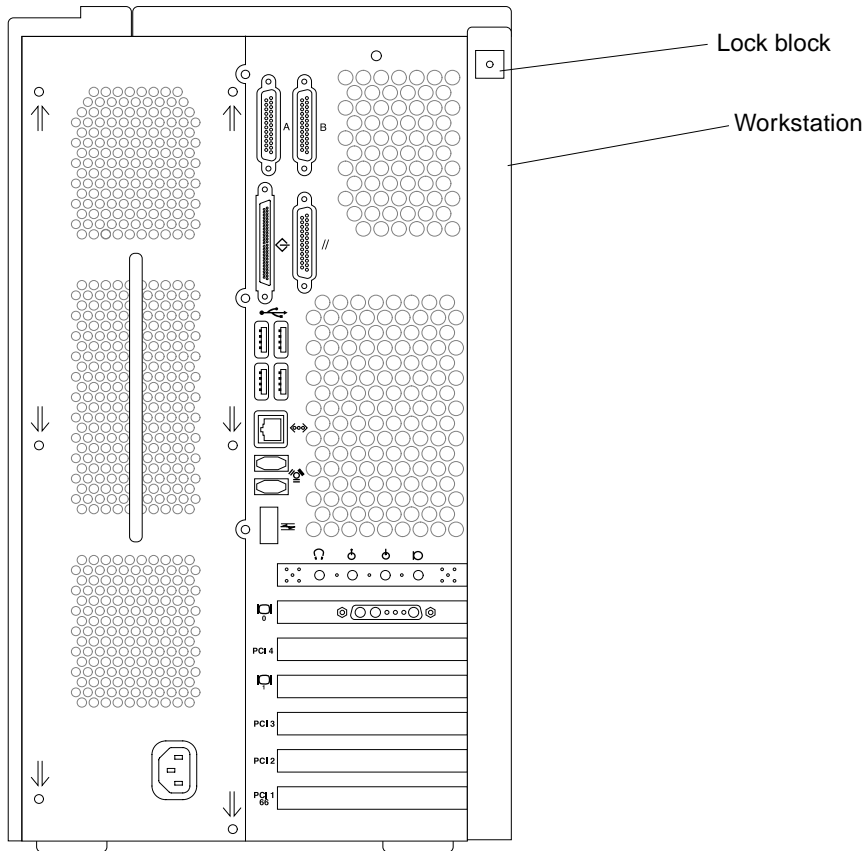

FIGURE 2 Lock Block Location
5. Remove the lock block, if one is installed (see FIGURE 2).